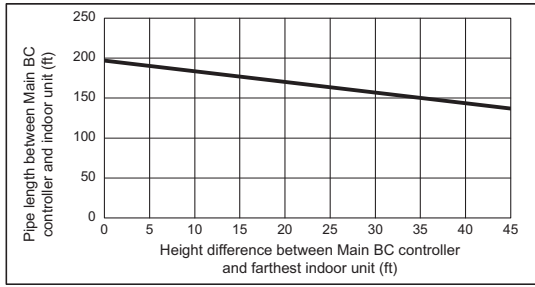

Fig. 2
- *2. Details refer to Fig. 2.
- *7. When the piping length or the vertical separation exceeds the limit specified in Fig. 2, connect a sub BC to the system. The restriction for a system with a sub BC connection is shown in Fig. 3. When a given system configuration falls within the shaded area in Fig. 3, increase the size of the high-pressure pipe and the liquid pipe between the main BC and sub BC by one size. When using P12, P15, P18, P36, or P48 model of indoor units, increase the size of the liquid branch pipe between the sub BC and indoor unit by one size.
When using indoor models P54 or larger, the restrictions shown in Fig. 2 cannot be exceeded.
*7. When the piping length or the vertical separation exceeds the limit specified in Fig. 2, connect a sub BC to the system.